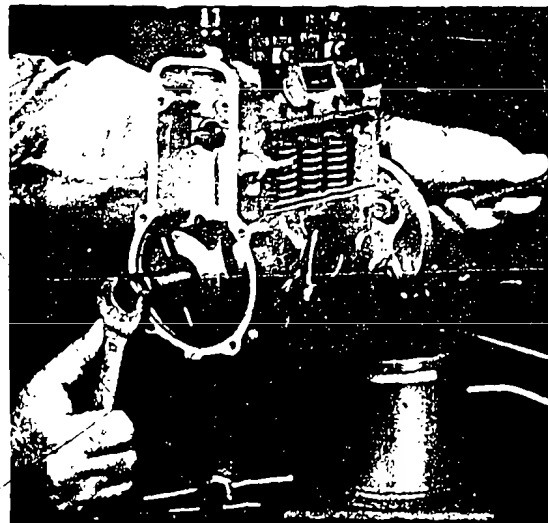

Fig. 9 Extracting the governor flyweight assembly
Remove spring washer (7) and withdraw governor flyweight assembly with extractor EF 8449 or EF 8132 (Fig. 9). Remove Woodruff key (5) from camshaft taper.